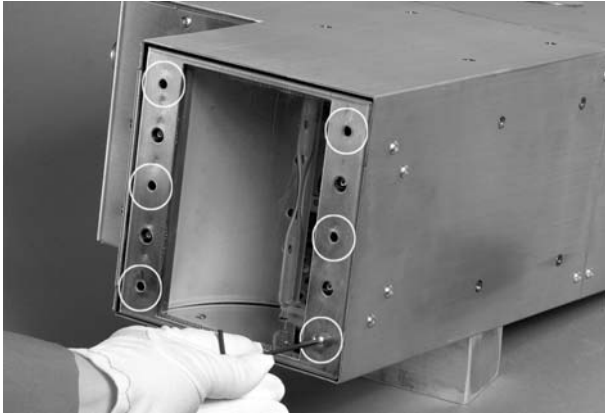

Figure 4-1 Removing the Screen Screws
2. See Figure 4-1. Turn or place the lamp head assembly so that the entire bulb area is exposed and accessible.